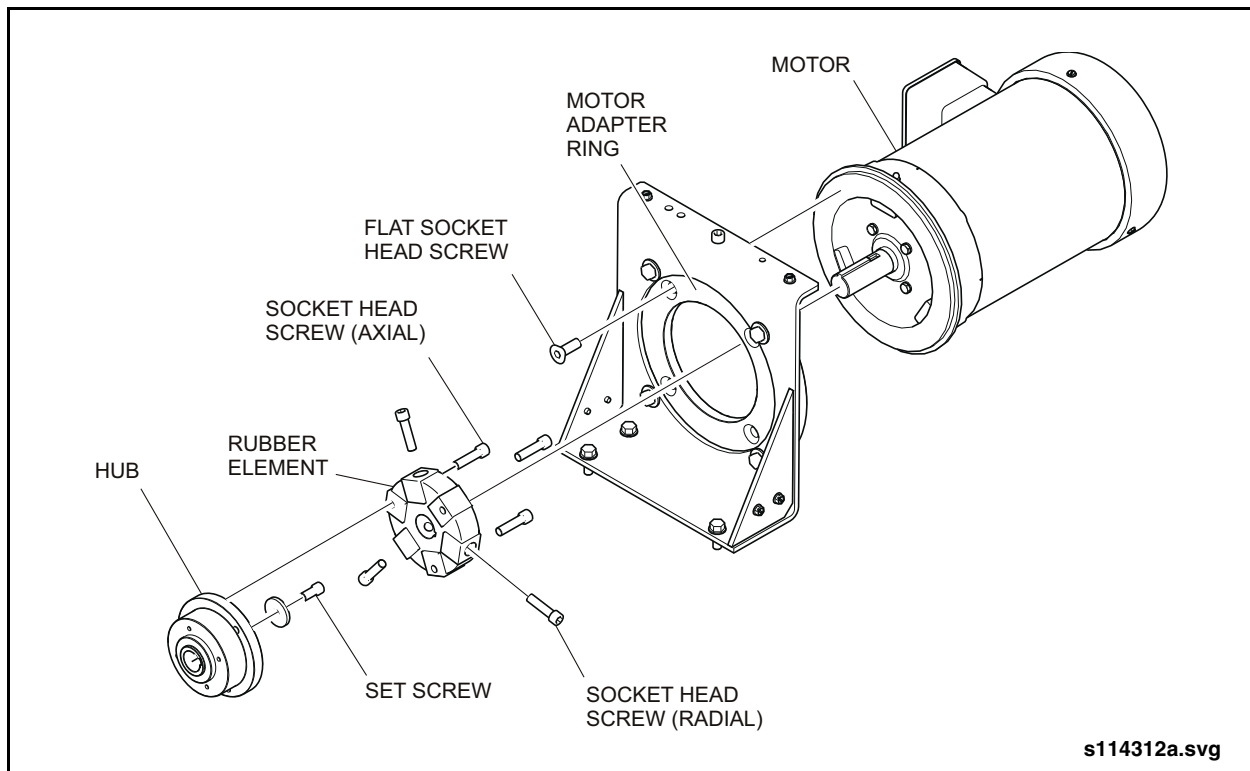

Fig. 12: Air Compressor Coupling
3. Remove the air compressor coupling guard to gain access to the coupling. See "Fig. 12: Air Compressor Coupling" on page 10.